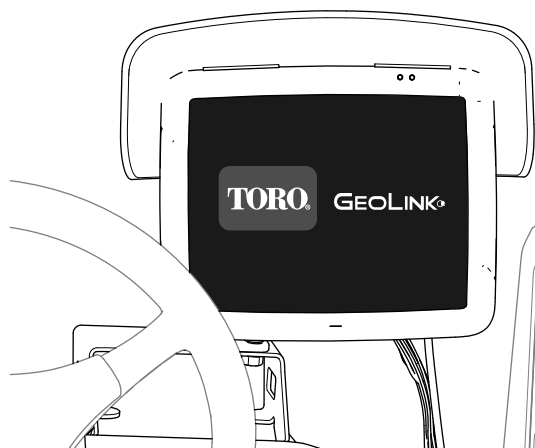

Figure 271
- Control console—displays graphics and text (Figure 271)